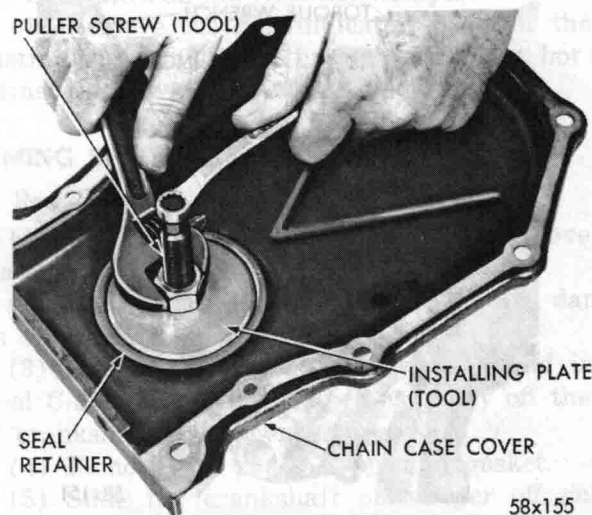

Fig. 33—Installing New Seal
(4) Install the flat washer and nut on puller screw, hold screw and tighten the nut (Fig. 33).